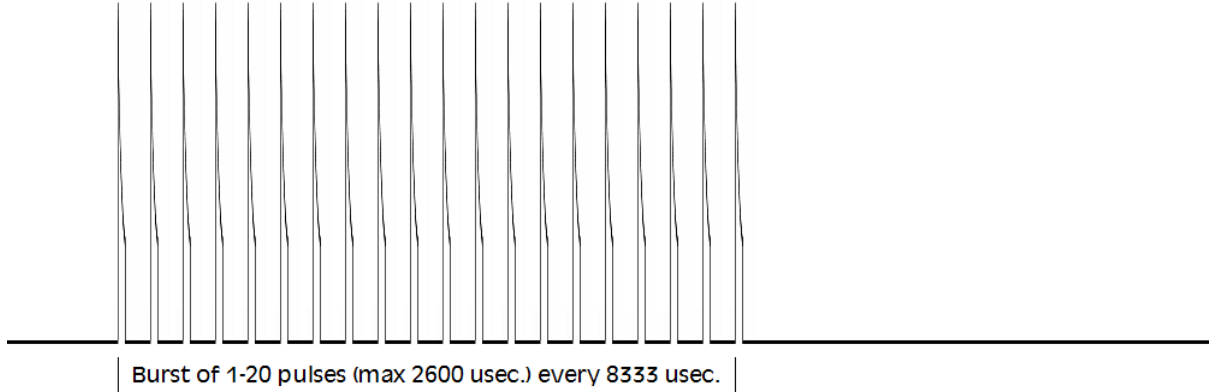

Figure 7a - SCR Gate to Cathode Waveform burst
*Figure 7* shows SCR gate to cathode oscilloscope waveforms at two different sweep speeds. The basic waveform is a fast rise pulse to 5 to 6 volts, decaying in about 25 – 30 usec to 1.6 volts followed by an off time of 95 – 100 usec. This waveform is repeated in a burst starting at the SCR turn on moment and lasts for up to 2.6 msec or until the next line zero cross event. *Figure 7a* shows the burst of 1 – 20 pulses that occurs each half cycle of the line. *Figure 7b* shows the details of the individual pulses.